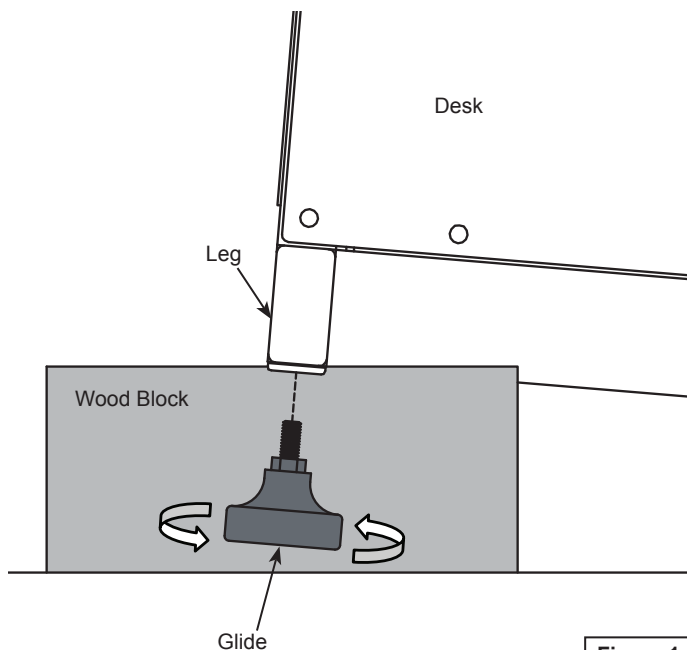

Figure 1
1. Carefully lift one side of the desk and place a short wooden 4x4 or 2x4 block (or equivalent support) under the leg. This may require two people. **Figure 1.**